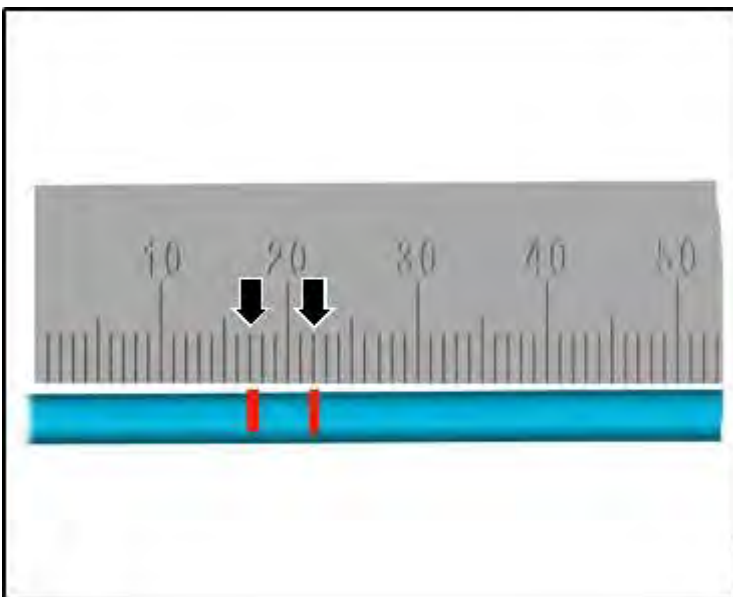

Figure 6
- Use a waterproof pen to mark the end of the two sections of the previously cut pipe, use 17mm/22mm marks (Figure 6) to confirm the pipes have been properly inserted into the connection piece